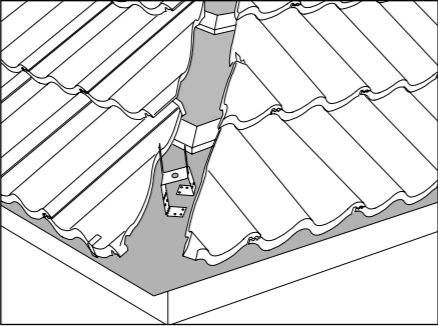

Fig. 3 – Lay tile to hip with raking cut
- 3 Tile roof leaving a gap of 80mm between raking cut tiles laid adjacent to hip rafter (Fig. 3). Ensure all raking cut tiles and slates are fully supported on the battens and if not, provide suitable packers to prevent tiles from rocking.